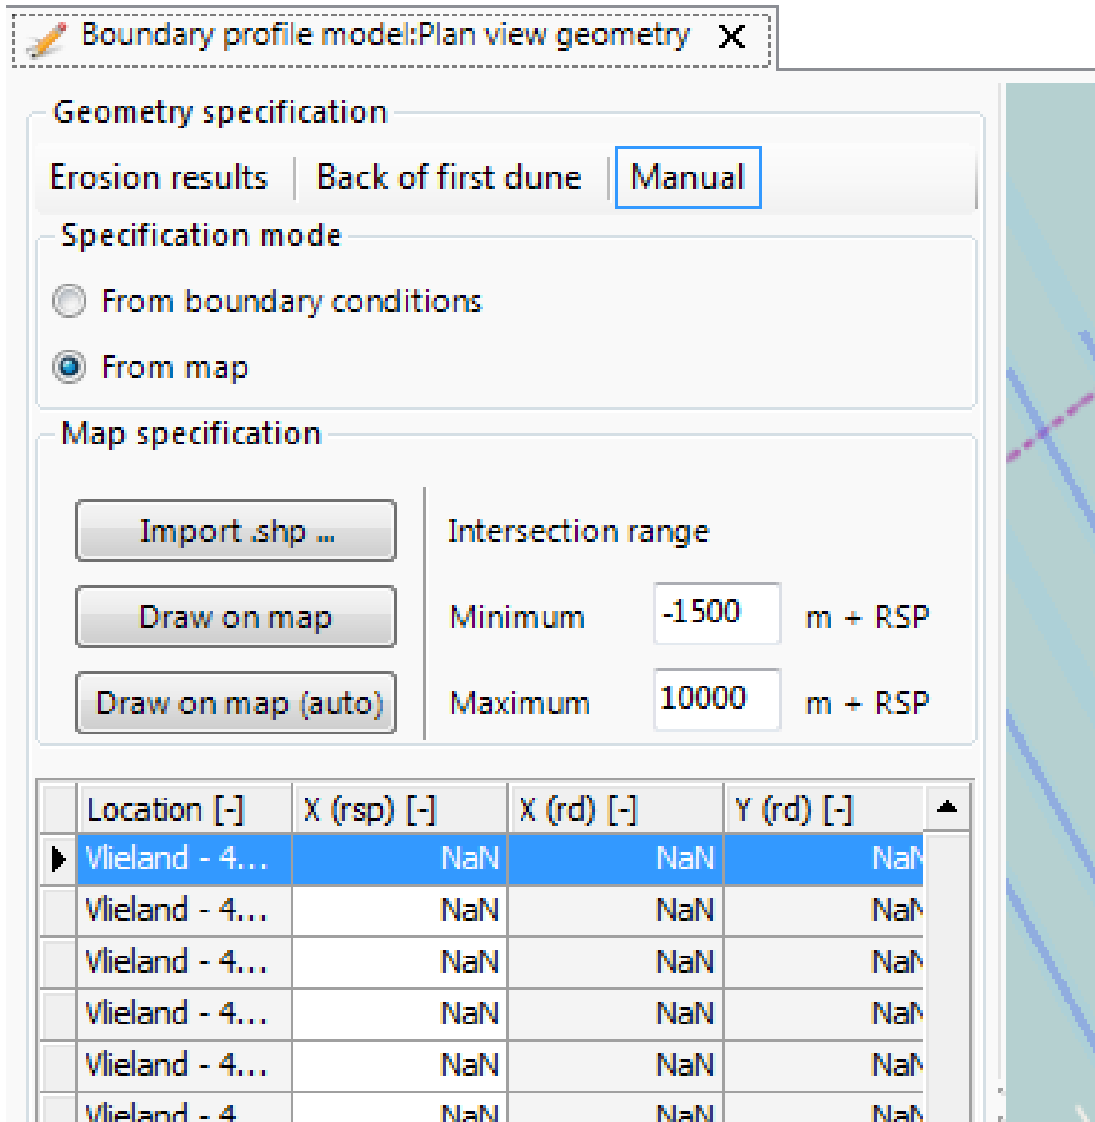

Figure 8.7: View of the left panel of the document window for the Plan view geometry for manual positioning of the boundary profile on a map
- ◇ **Manual** - This option enables you to manually specify the (fixed) path of the boundary profile. When this option is selected, the left panel of the screen will change (Figure 8.7). You can specify a fixed position of the boundary profile in two ways: